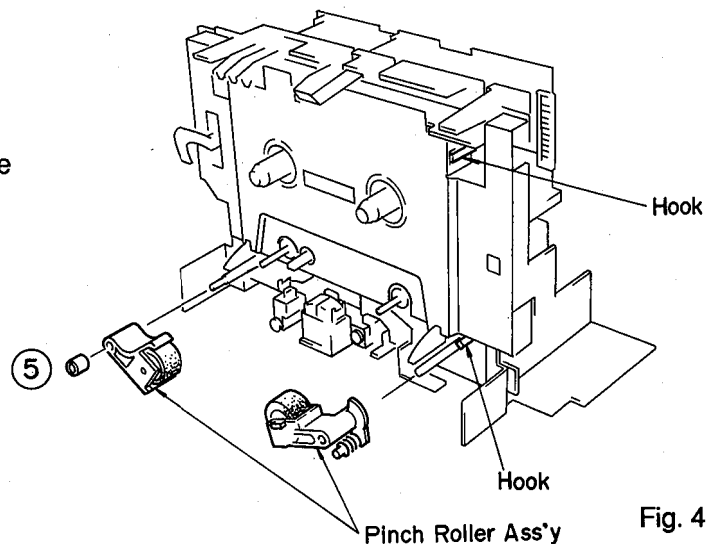

Fig. 4
- Remove the arm adjust screw (5) in fig. 4.